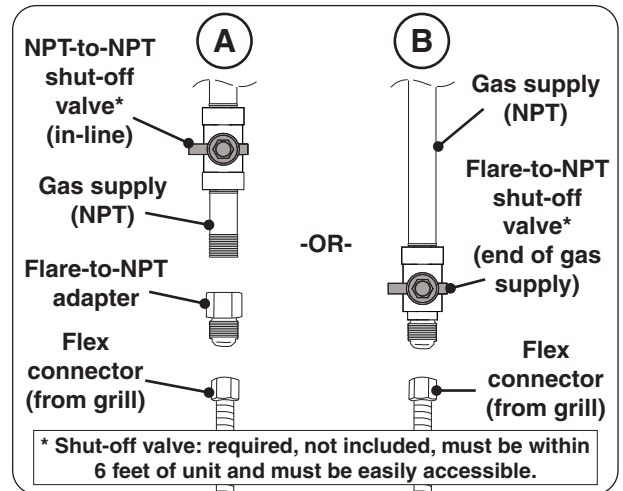

Fig. 19-1 Connecting to a gas line
- Install the supplied flare-to-NPT adapter to the gas supply (NPT) using a pipe joint compound resistant to all gasses (see Fig. 19-1, A). Tighten securely.
- Connect the flex connector to the adapter (see Fig. 19-1, A). Tighten securely.
- Connect the flex connector to the shut-off valve (flare) (see Fig. 19-1, B). Tighten securely.